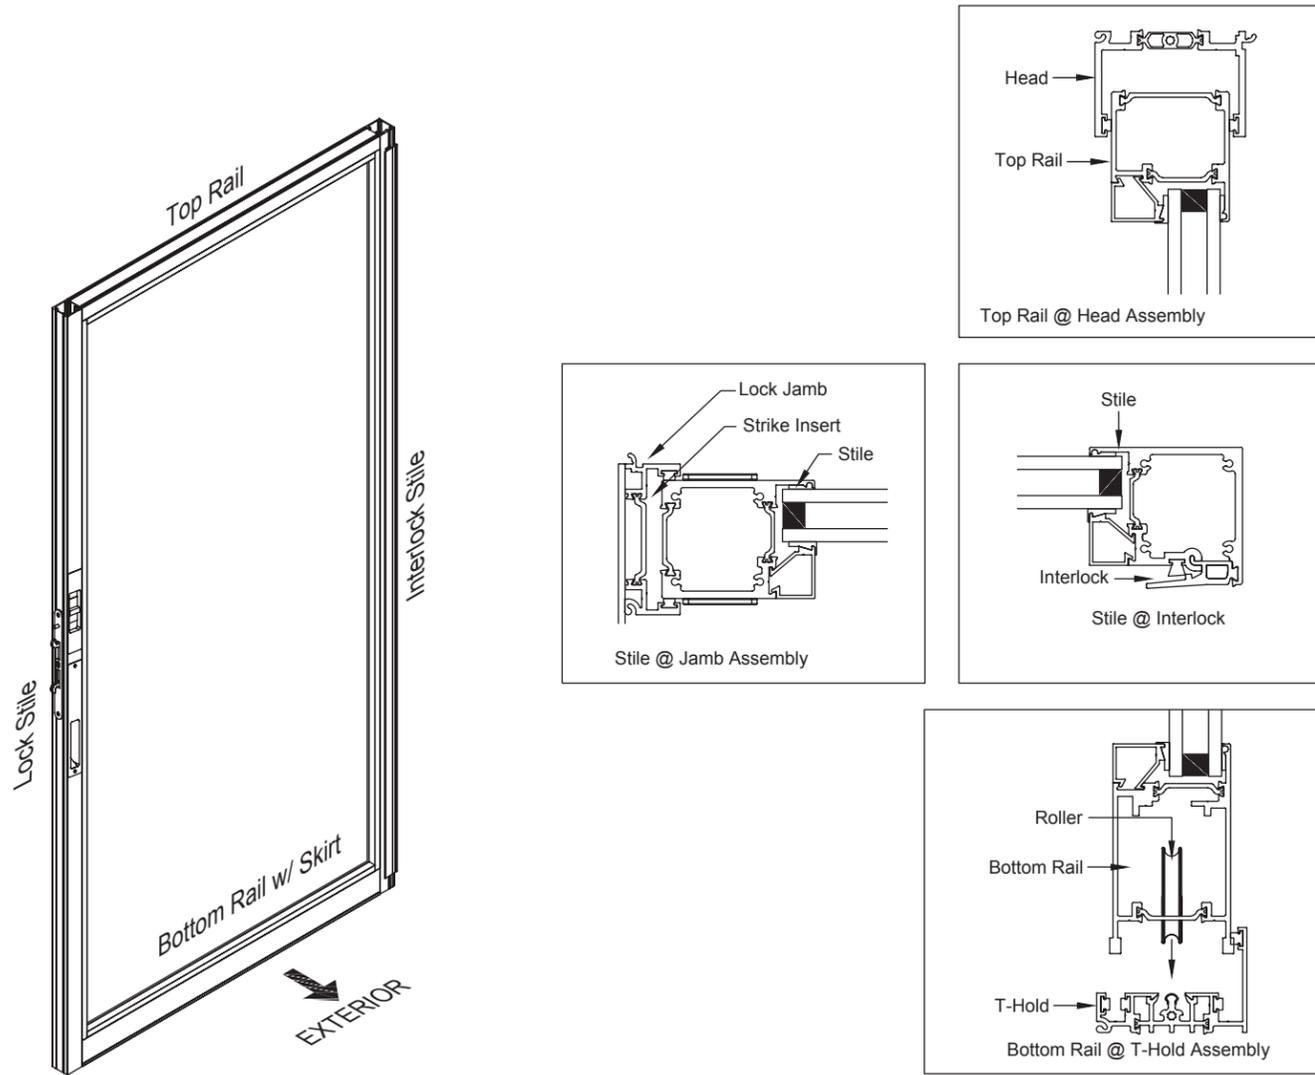

Fig. 3
2. Each panel will be marked with a product label. On the product label, each panel will be marked with the unit number, and lettered by position: Lead (L), Intermediate (I), Pocket (P) panel. Note that the number or intermediate panels will vary by the configuration.
3. **Lead panel components:** Top Rail, Lock Stile, Interlock Stile, and Bottom Rail with Skirt. **See Fig. 3:**